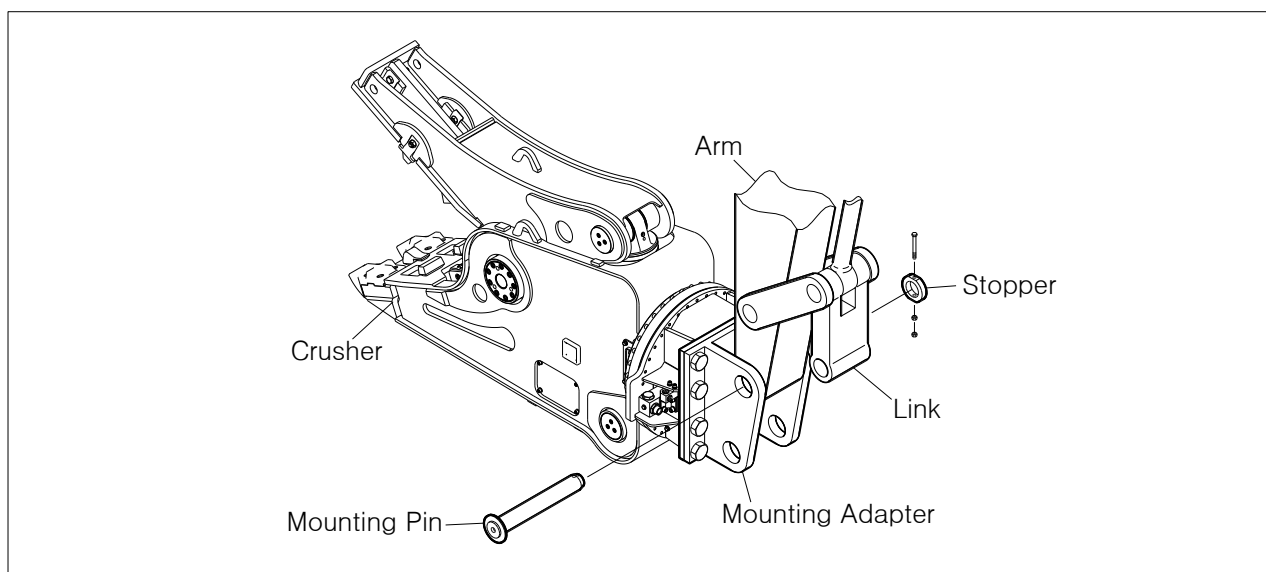
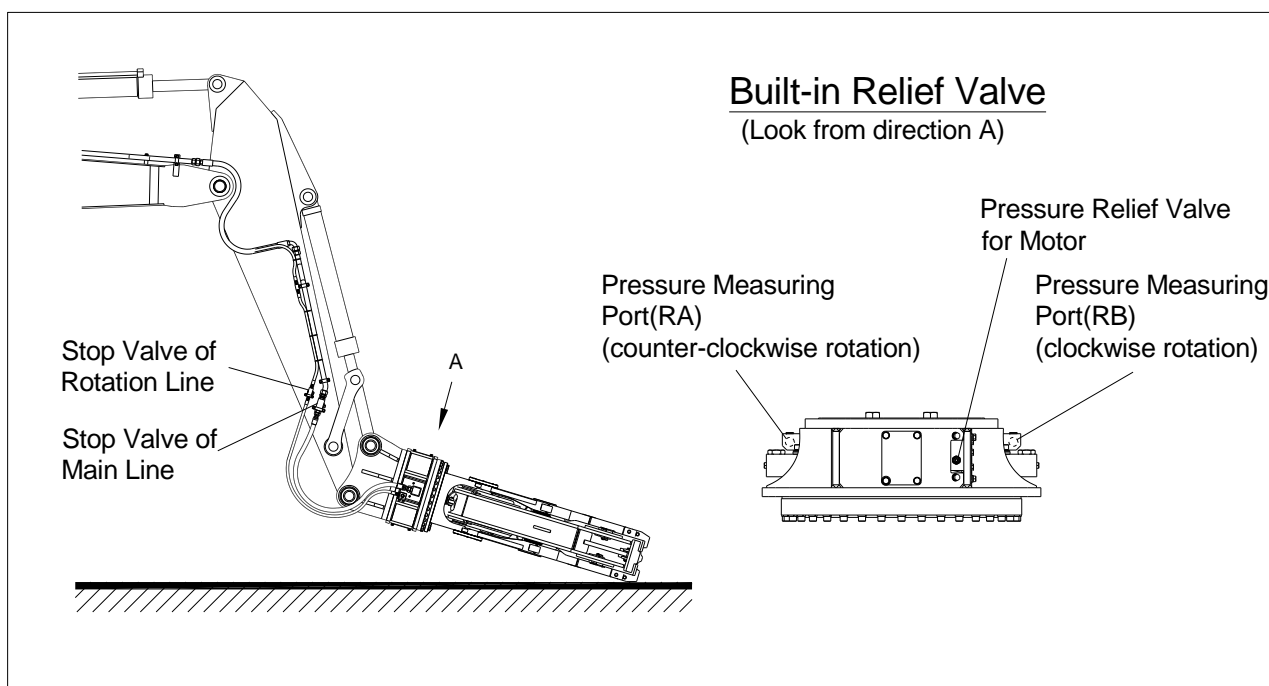

**Figure 19**
Figure 22
- Check the direction of hose connecting port. Piping line on the carrier should be in the same direction as the ports of the pulverizer. The followings are the directions of hose connecting port of the pulverizer. (Figure 19)
A motor control block will be seen as Figure 22, if you take the cover plate off from Figure 19.